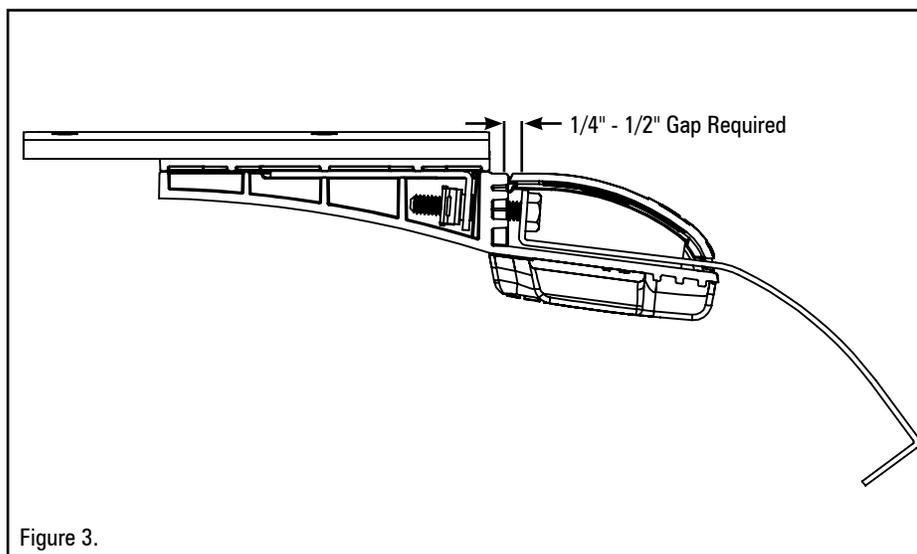

Figure 3.
2. Place lightbar centered on the roof, and hold brackets up to the lightbar. A 1/4" to 1/2" gap should be between the hook bracket and front wall of the mounting foot prior to putting any tension on the hook bracket bolt (See Figure 3.) Adjust the mounting foot position to accommodate for this gap.